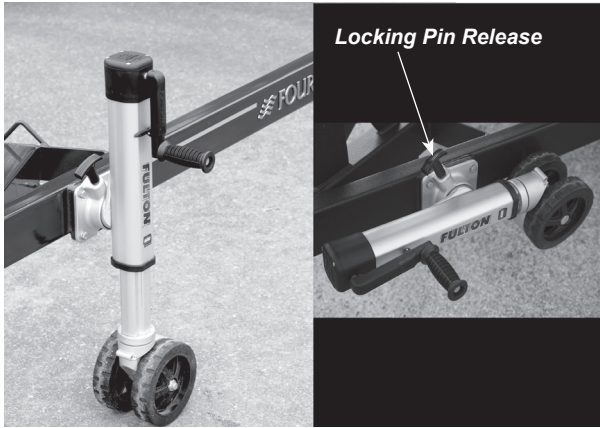

Figure S4: Swivel Jack
1. Pull on the locking pin release. See Figure S4.